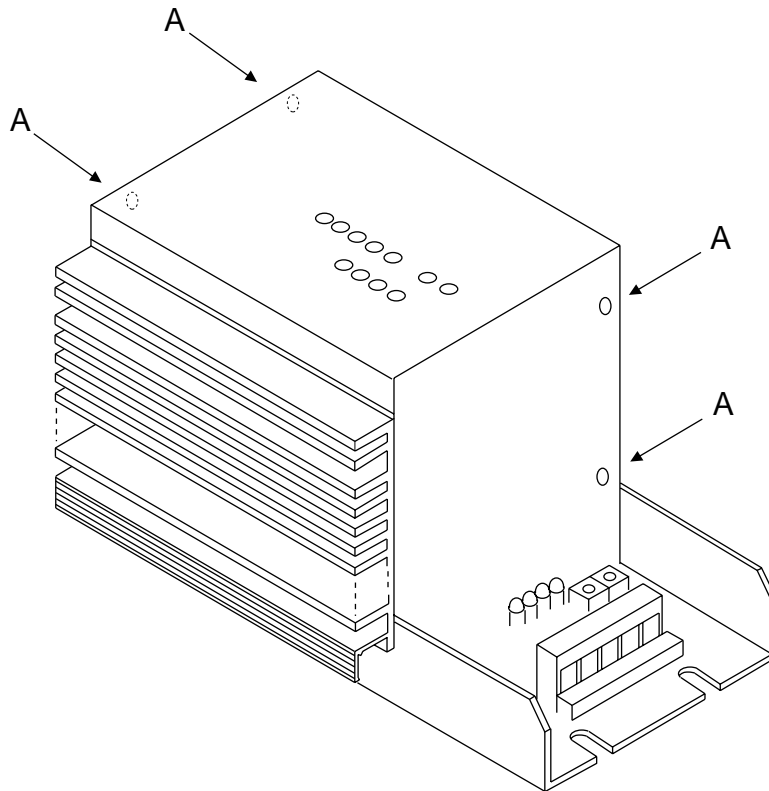

Figure 5-1. PKC Drive Schematic
- (b) Position the drive with the terminal blocks towards you as shown in Figure 5-1 and remove the four M3 x 10mm screws marked A. The screws at the back of the unit are holding the two sections of the cover together - only remove the part of the cover with the LED holes, leaving the part with the mains connector in place.